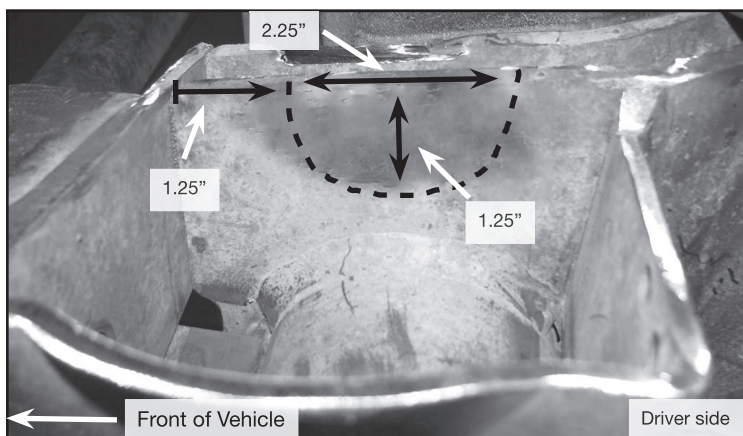
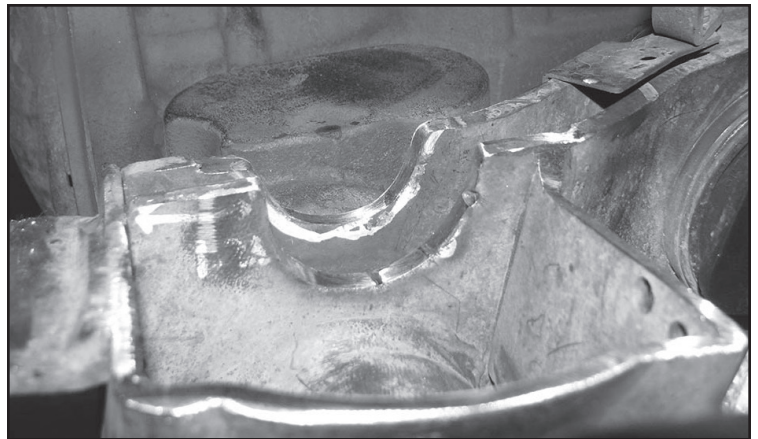

FIGURE 14 - STEP 10
FIGURE 15 - STEP 10
10. On the inside of the spring perch support, measure 1.25" from the front and mark, next measure 2.25" from that mark. Measure 2.375" from the front, from there measure 1.25" down and mark. Radius the 3 marks like shown in **FIGURE 14**. Carefully cut the support. **NOTE: Cutting will need to be done to both plates, the one you marked and the one behind.** **SEE FIGURE 15.** Sand to a smooth finish.